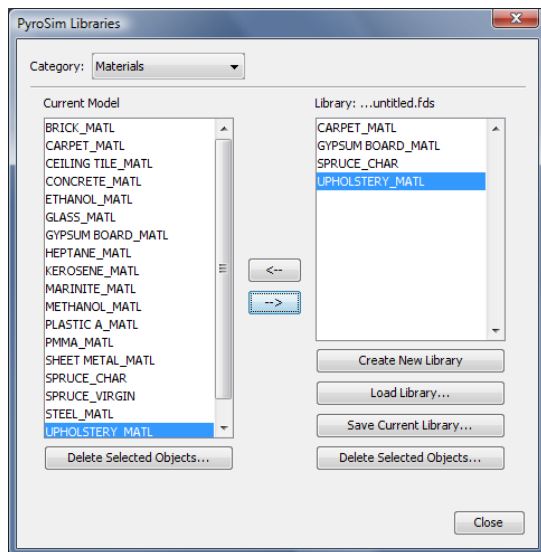

Figure 21.1. Creating a library of materials
2. Select the **Category** that you want to manage and move selected items from the **Current Model** into the **Library**, Figure 21.1.